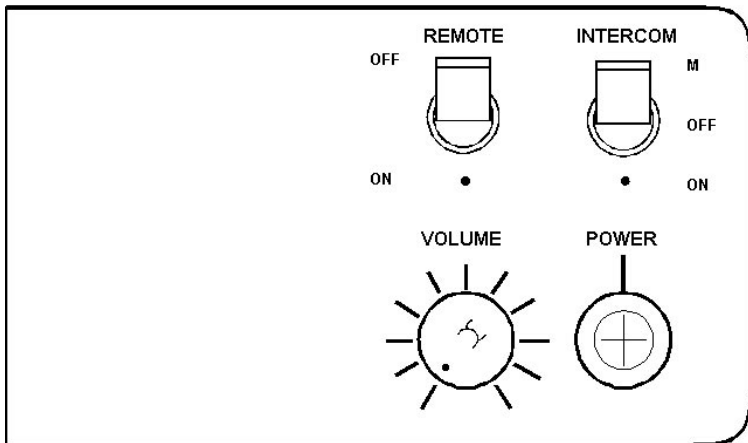

Figure 3 - Control Panel With Remote Option
- **Standard Station with Remote Option** - In addition to the LED **POWER** indicator, there is a **REMOTE ON/OFF** switch, an **INTERCOM ON/OFF/Momentary** switch and a **VOLUME** control (see Figure 3).